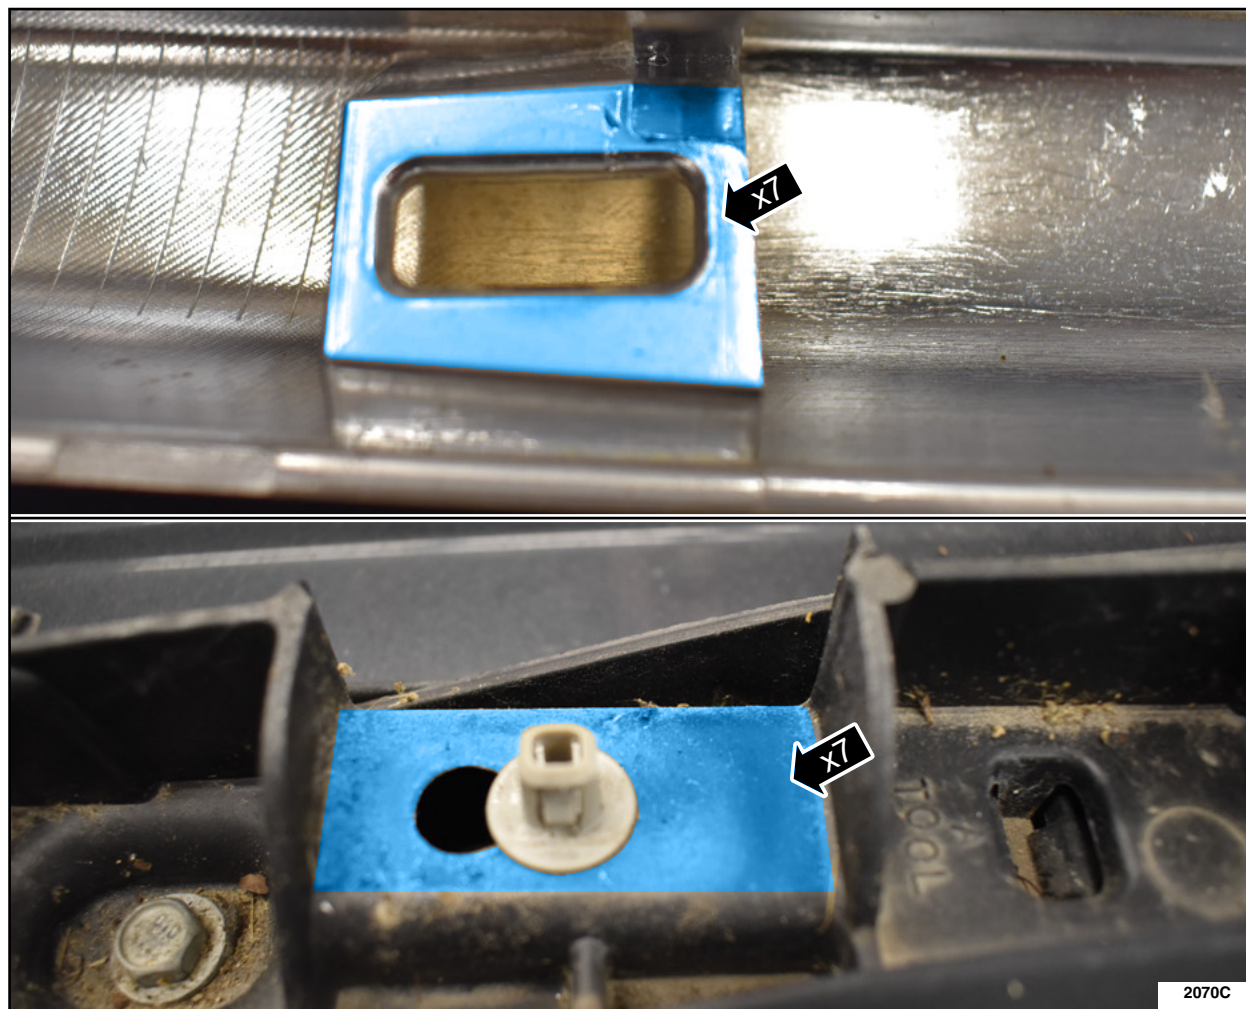

FIGURE 5
5. Remove any adhesive on the roof rail cover retaining tower and roof rail contact pads. See Figure 5.